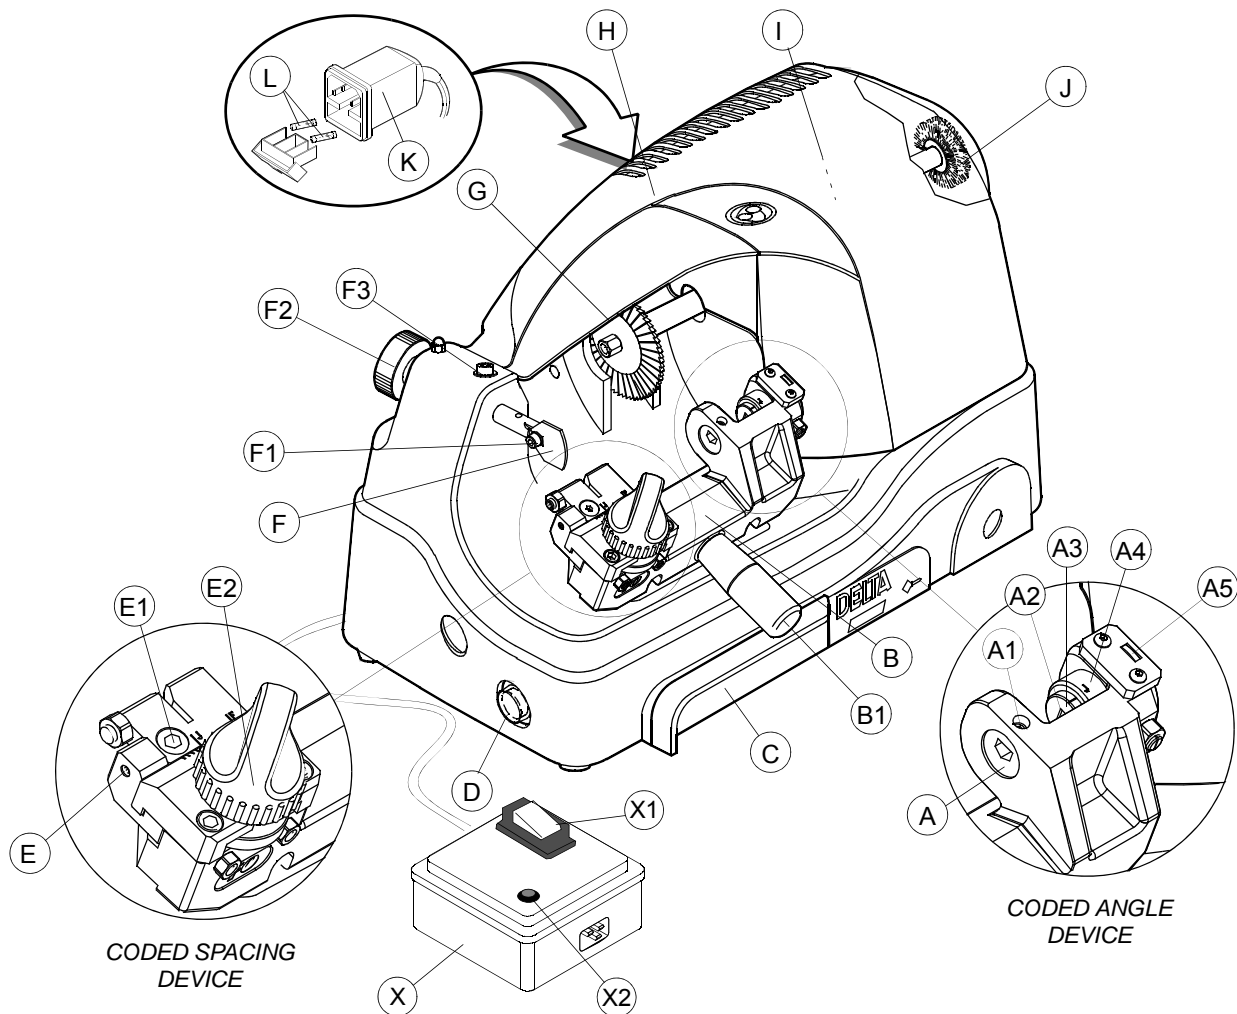

Fig. 5
- a) turn off the master switch (D) (fig.5, page 4);
The DELTA 2000 FO key-cutting machine comes in a strong cardboard box, the dimensions of which are shown in fig.5, designed to protect the machine and all its parts even when it is stored for long periods.